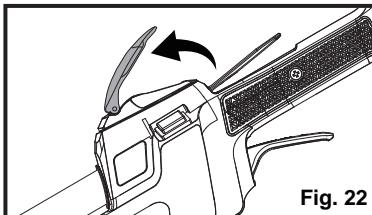

Fig. 22
- Lift the start button cover and press the start button until the engine starts. Then immediately engage the throttle safety and the throttle trigger to start the trimmer (Fig. 22 - 25). The choke lever will automatically switch to RUN position.